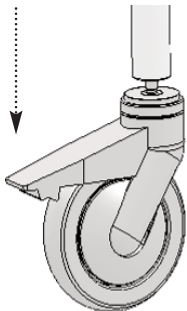

Figure 23
**B Castor Wheels:** When transferring into the chair, out of the chair and sliding the user from the roll-in section into the tub section, all four castor wheels should be securely locked in place. Failure to do so could cause the chair to become unstable (Refer to Figure 23).